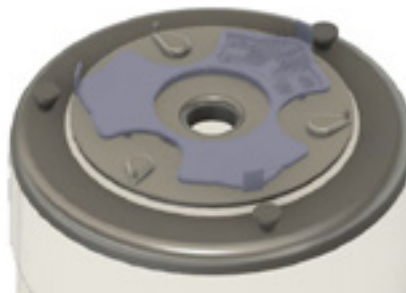

Figure 2 – Setting Tool Placement for height adjustment
- The setting tool should be laid between the cranks as shown in Figure 2
During each Single Sample, the iVAS Roam integrates the measured flow rate to determine the volume of air that has been sampled in the current run time as shown in Figure 2. When the iVAS Roam determines that volume sampled is greater than the target volume defined in the sampling recipe it stops the fan and completes the Single Sample.